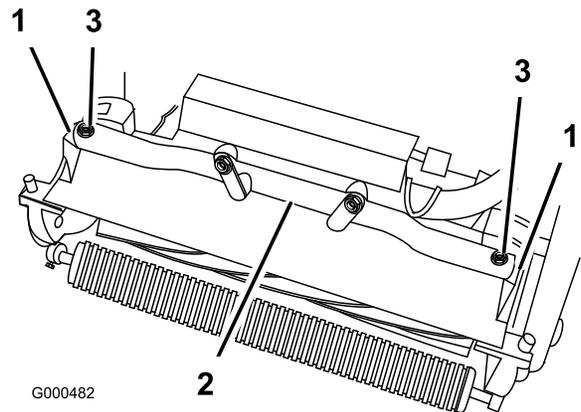

Figure 6
4. Rotate the traction unit frame (Figure 6) forward until it engages the cutting unit pivot arms.
5. Secure the traction unit frame to the cutting unit pivot arms with (2) M10 x 25mm bolts (Figure 6)